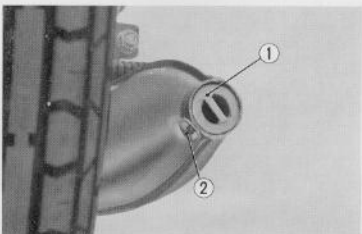

Fig. 4.65 Removing diffuser pipe
3. The diffuser pipe can be removed by unscrewing the  $6 \times 8$  hex bolt, however, the diffuser pipe is not removable on the USA export models. (Fig. 4.65)